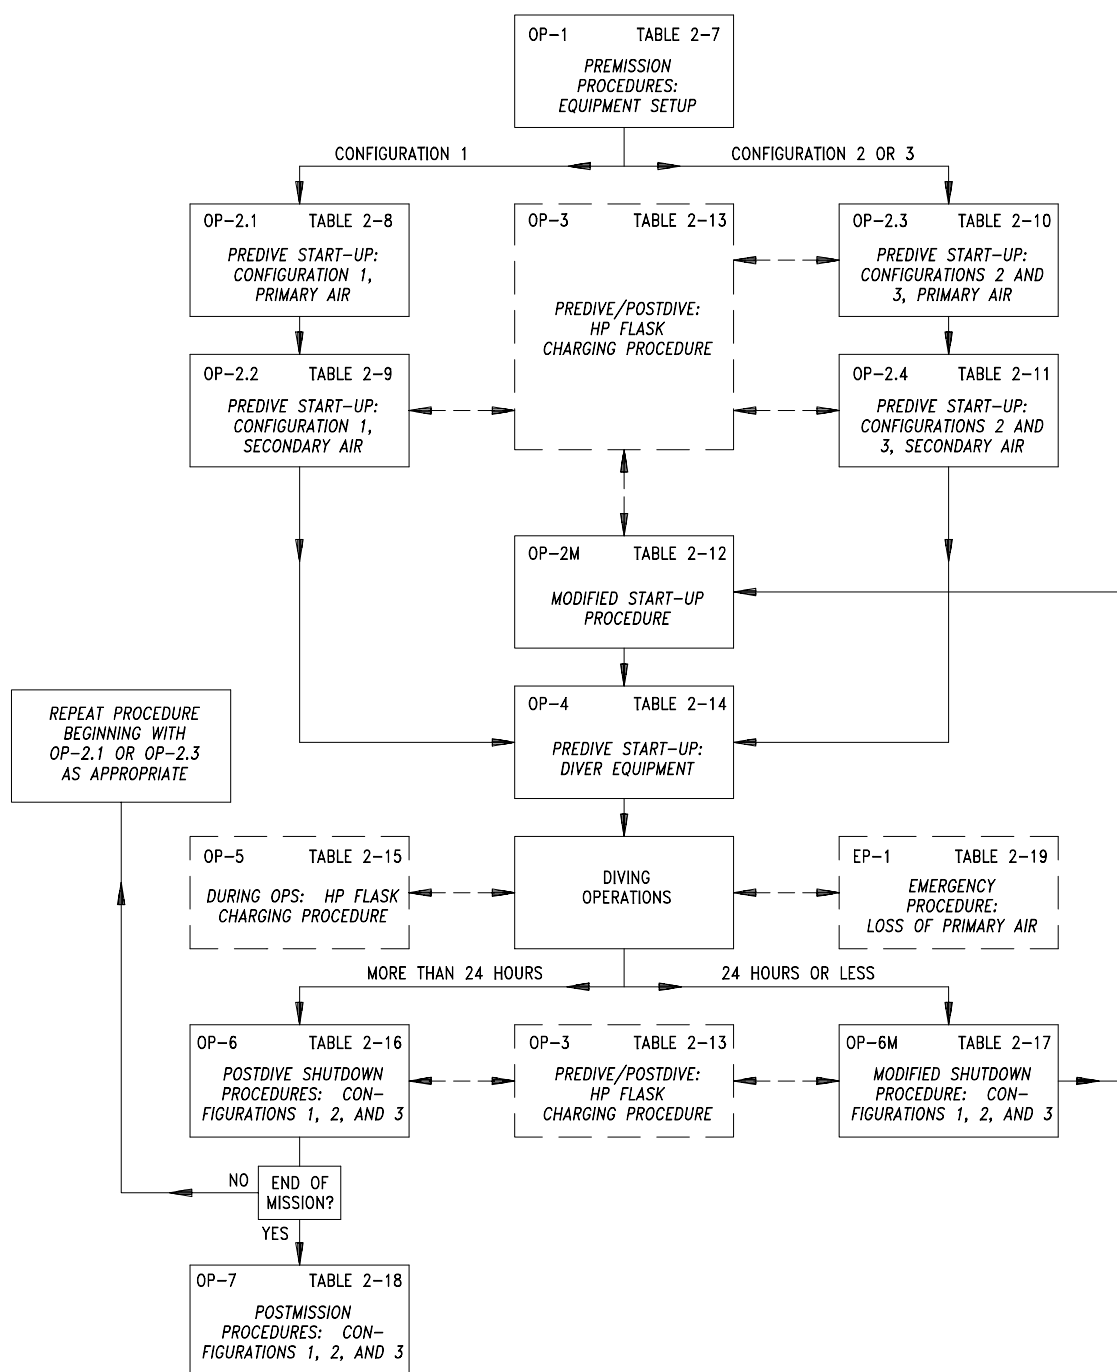

Figure 2-8. Operating and Emergency Procedures Flow Chart
The flow chart in Figure 2-8 shows the general sequence of operating procedures for the LWDS MK 3 Mod 0 with cross-references to the corresponding table in this chapter and the Operating Procedure (OP) or Emergency Procedure (EP) checklist provided in Appendix A.